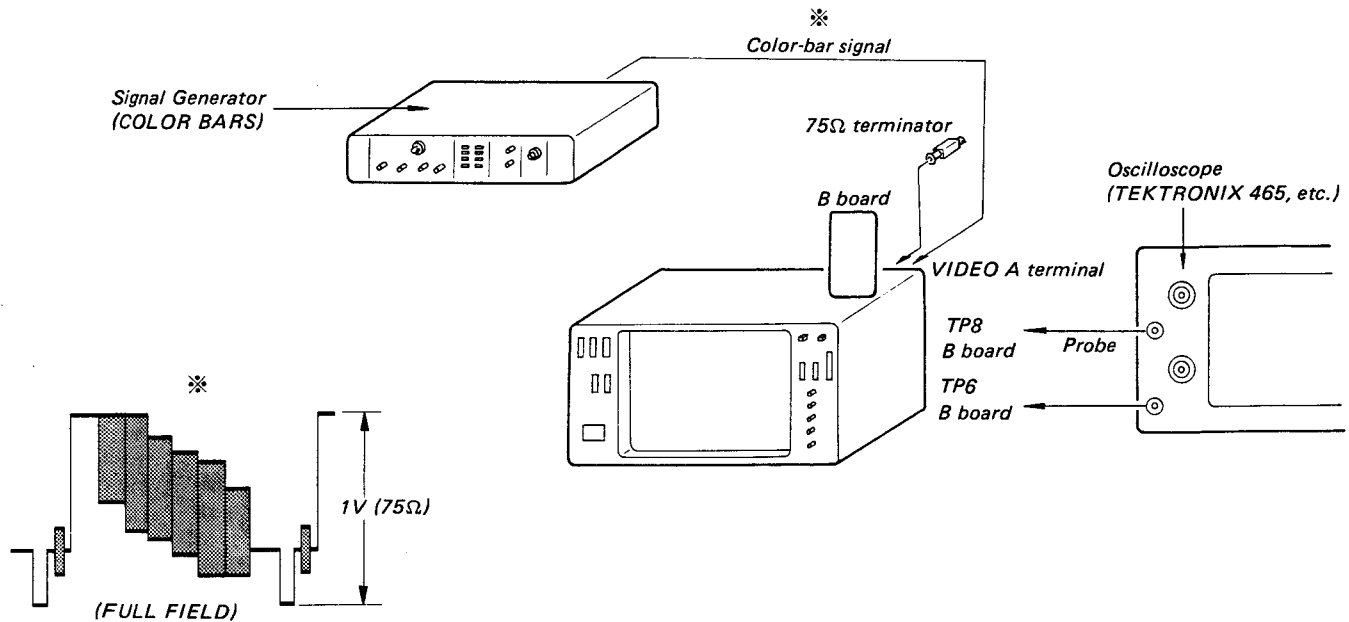

Fig. 5-49.
1. Complete the connections as shown in Fig. 5-49.